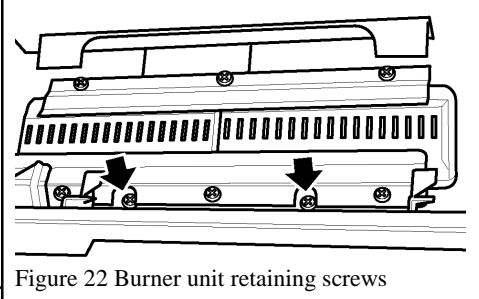

Figure 22 Burner unit retaining screws
- The front plaque clamp has two cutouts. Below these cutouts are two screws. Remove these two screws. See figure 22.
- Detach the burner can & plaque unit by removing the two screws shown in figure 22.